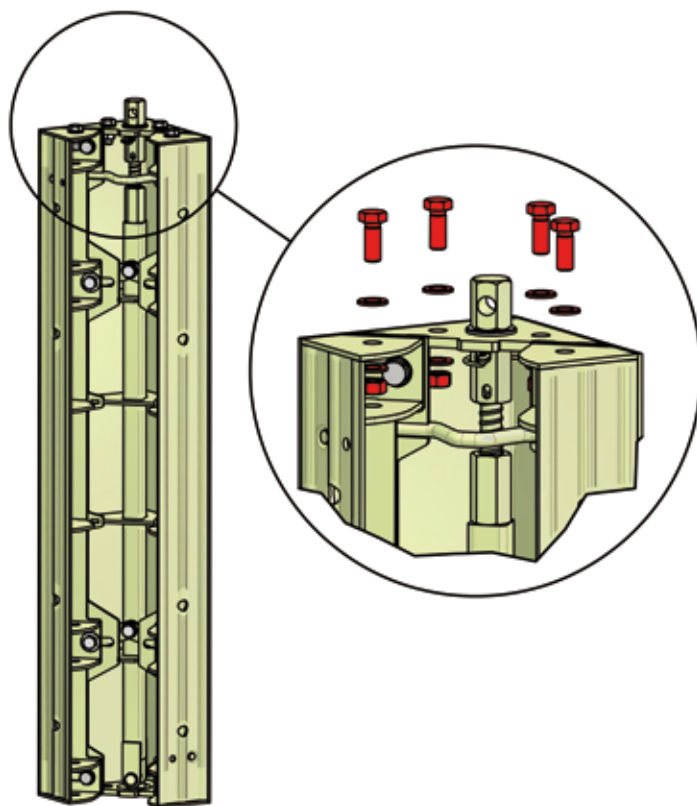

fig. 5
1. To connect the two dismantling inside corner posts together, the bottom corner screws on the head plate have to be removed. (see fig. 5)